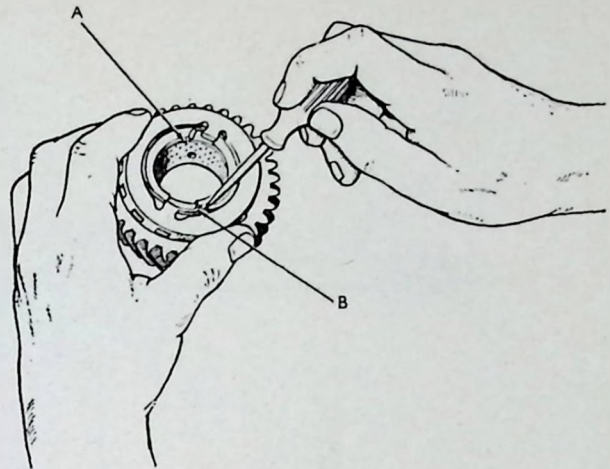

FIG. 43.—Entry of spring "B" into freewheel hub.
free end of spring "A" into hole "A" in the gear hub (32). Moving the cage slightly over the hub towards hole "B" (Fig. 43), enter the free end of spring "B" into hole "B" with a small screwdriver, ensuring that spring "A" is still underneath. Rotate the cage a few degrees anti-clockwise so that its tongues lie in the slots in the hub.